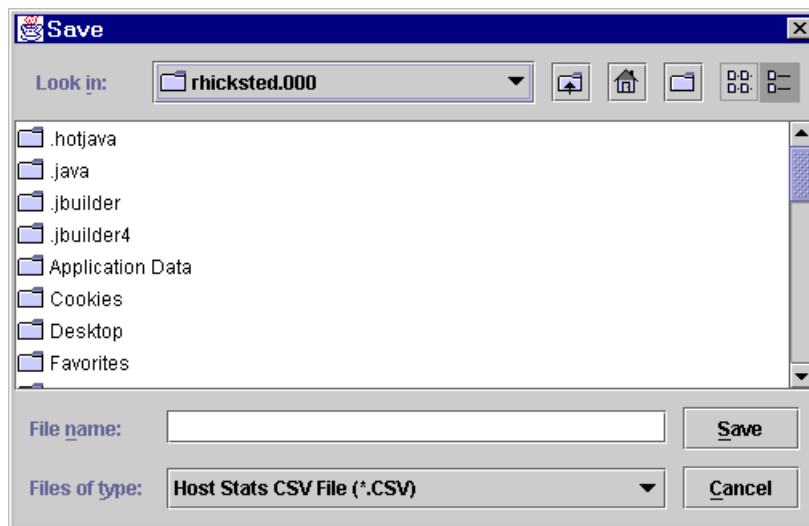

Figure 9-5. Export Host Statistics—File Name and Location
2. You are prompted to select a location and a file name (see figure 9-5). After selecting a location from the **Look in** list, type a file name in the **File name** box or select an existing file. Click **Save**.